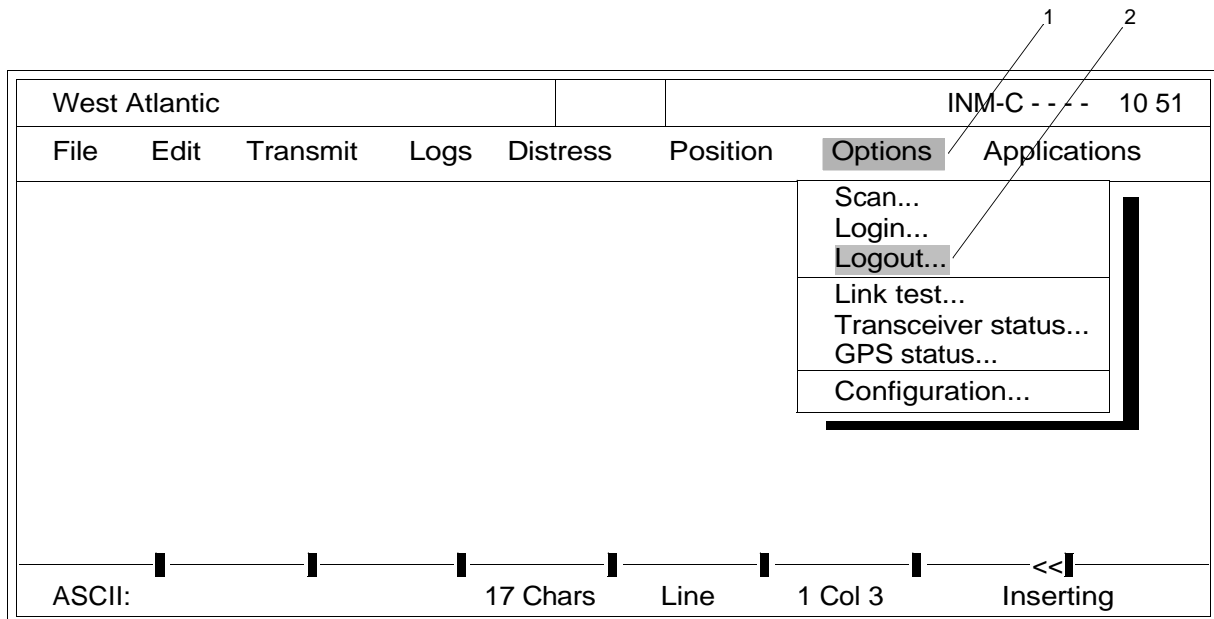

Figure 4. Options Drop-Down Menu
2. Highlight Options (figure 4, item 1) from the menu bar.
4. Highlight Logout (figure 4, item 2) from the drop-down menu.